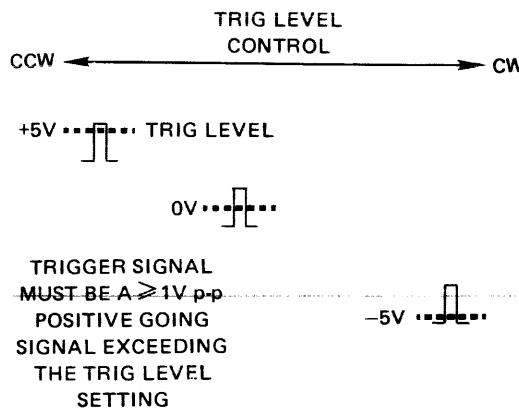

Figure 3-2. Minimum Trigger
**TRIG LEVEL Control** — The inner control is a continuously variable adjustment of the TRIG IN (21) circuitry. When full ccw, approximately a positive going signal of +5V or greater voltage is required for triggering (figure 3-2). In the full cw position, a positive going pulse of approximately -5V or more positive voltage is required for triggering. In the GATED mode, the generator will begin to run continuously at some position of the control cw past 12 o'clock. When using the MAN TRIG, this control must be ccw of the midpoint.